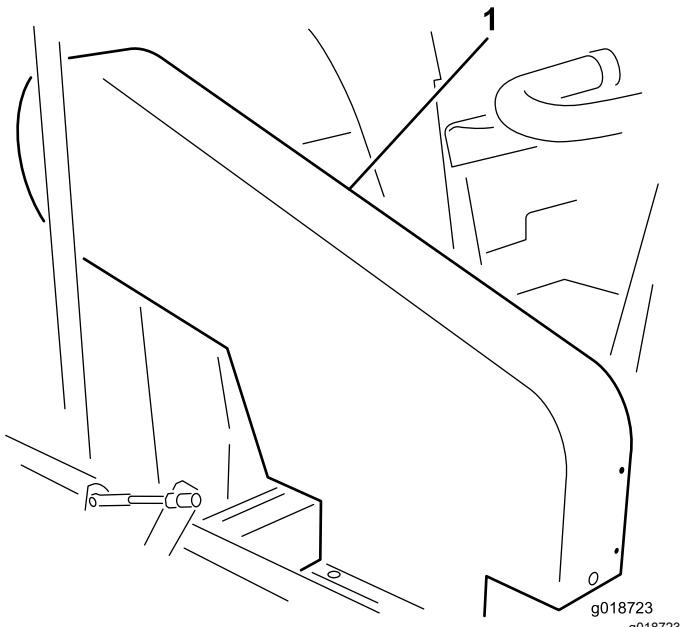

Figure 19
**Note:** It is not necessary to remove the upper belt guard (Figure 19) to check the belt tension. If you remove the belt guard, remove the 4 bolts, washers, and nuts securing the guard to the frame. Do not operate the machine without the guards in place.
Check the tension by pressing the belt at the midspan of the impeller and clutch pulleys with 18 to 22 N (4 to 5 lb) of force. The belt should deflect 1.3 cm (1/2 inch). If the deflection is incorrect, refer to Adjusting the Impeller Drive Belt \(page 24\). If the deflection is correct, continue normal operation (Figure 19).
Check the tension by pressing the belt at midspan of the jackshaft and clutch pulleys with 18 to 22 N (4 to 5 lb) of force. The belt should deflect 6 mm (1/4 inch). If the deflection is incorrect, refer to Adjusting the Jackshaft Belt \(page 25\). If the deflection is correct, continue normal operation (Figure 19).
- Remove the 4 bolts, washers and nuts securing the upper shroud to the frame (Figure 19).